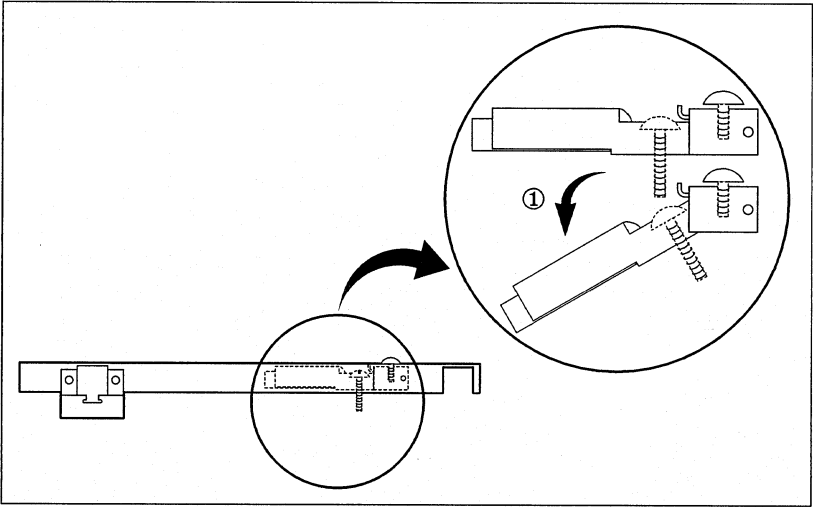

fig. A-22
1. Angle the plastic guides of the card retainers downward (fig. A-22). This helps to seat the card retainers on the expansion card edges.